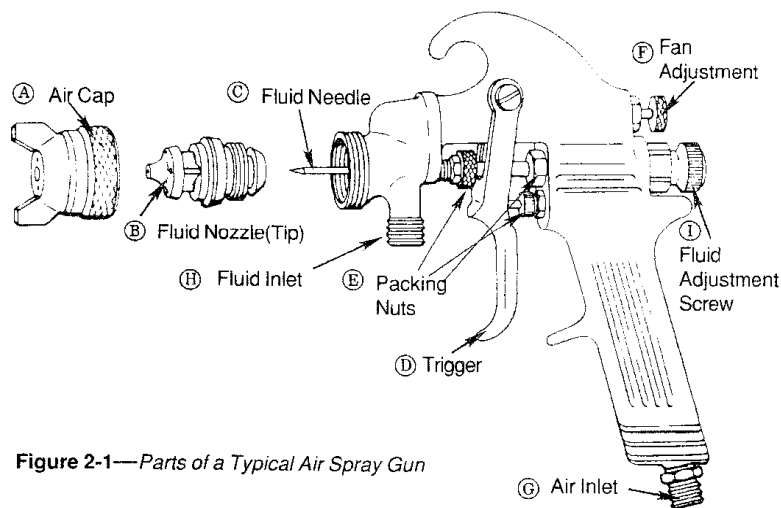

Figure 2-1—Parts of a Typical Air Spray Gun
Figure 2-1 illustrates the basic parts of a conventional air spray gun. Each of the parts has a specific purpose:
(A) **Air Cap:** Directs the jets of compressed air into the stream of paint coming out of the fluid tip. The cap will be either an internal or external mix. The one shown in Figure 2-1 is an external mix air cap, meaning that the air mixes with the paint after it leaves the gun.